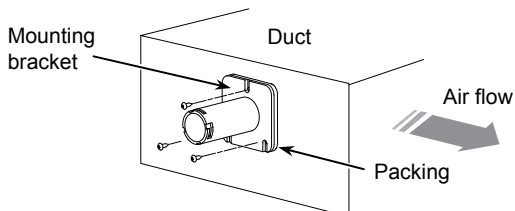

Figure 3. Mounting bracket on the duct
- 2) Fix the mounting bracket onto the duct with M4 screws (supplied with the bracket), inserting packing between the duct and the bracket. (The side with longer protruding part needs to face outward. See Fig. 3.)